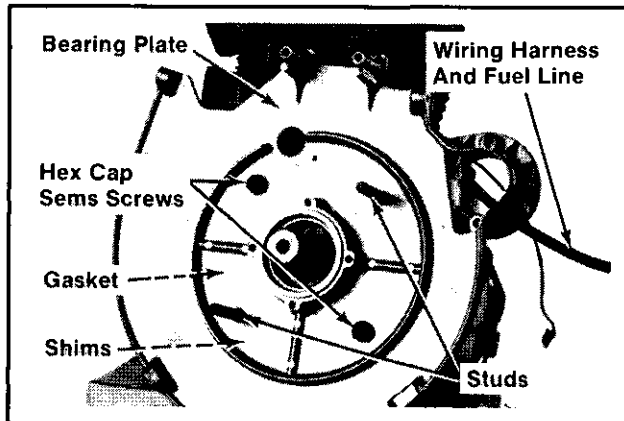

Figure 12B-17. Installing Wiring Harness And Bearing Plate.
1. Install 3/18-16 studs into two of the bearing plate mounting holes. The studs ease locating and assembly of shims, gasket, and bearing plate. Refer to Figure 12B-17.